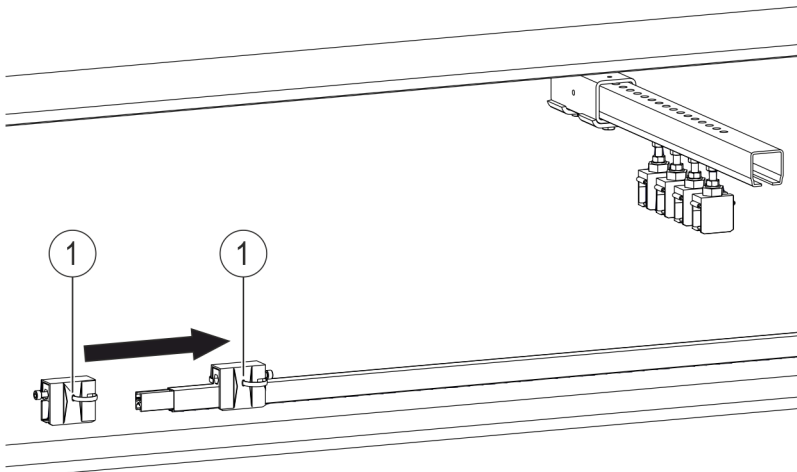

Fig. 93: Slide the anchor point clamps 0812 onto the conductor rail
- Slide the anchor clamps (Pos. 1) onto the conductor rail section to the right and left of the hanger clamp (see Fig. 93). When sliding on the anchor clamps, ensure that the screw on the side of the anchor clamps is on the outside.